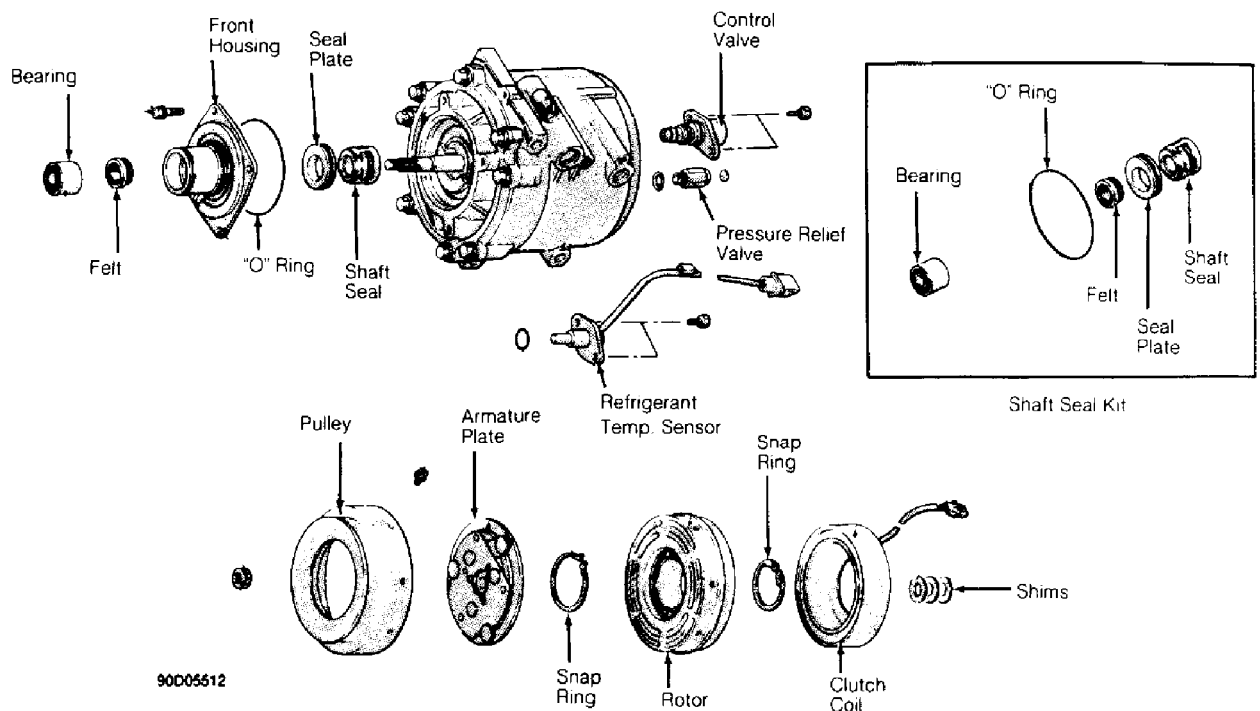

Fig. 15: Sanden Scroll Compressor
2) Remove armature plate. See Fig. 15. Remove snap ring with internal snap ring pliers. Remove clutch hub. Remove snap ring and clutch coil.